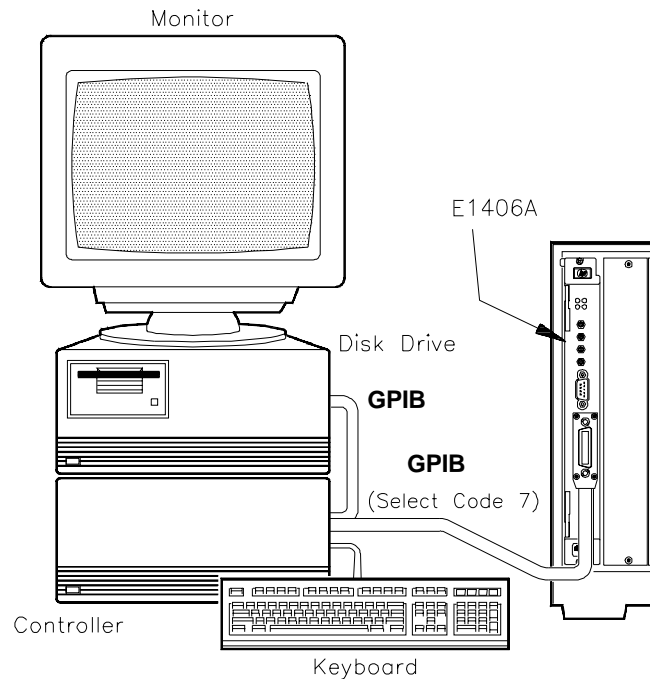

Figure 2-4. Test S-1: GPIB Power-On Test
- Connect computer to mainframe (see Figure 2-4)